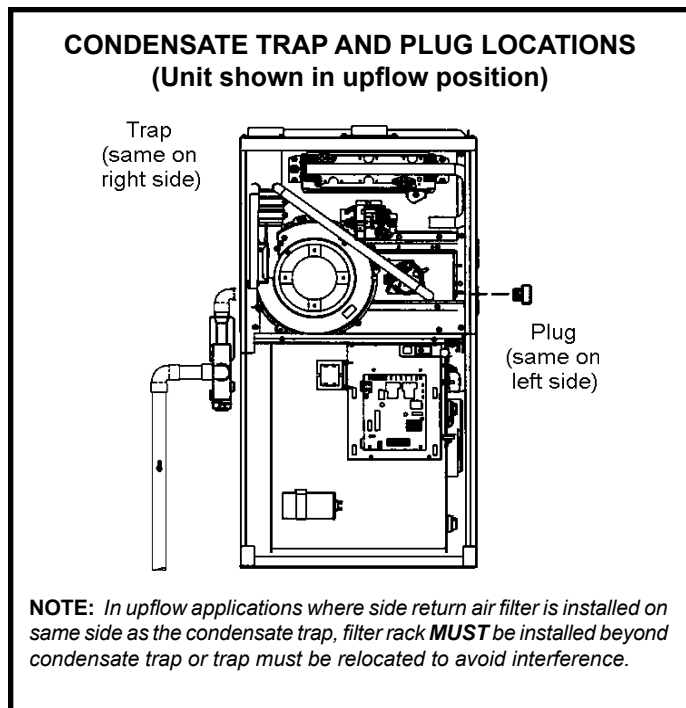

Figure 49
This unit is designed for either right or left side exit of condensate piping in upflow applications. In horizontal applications, the condensate trap must extend below the unit. An 8" service clearance is required for the condensate trap. Refer to Figure 49 and 51 for condensate trap locations. Figure 56 shows trap assembly using 1/2" PVC or 3/4" PVC.
2. Use a large flat head screw driver or a 1/2" drive socket extension and remove plug (Figure 49) from the cold end header box at the appropriate location on the side of the unit. Install provided 3/4 NPT street elbow fitting into cold end header box. Use Teflon tape or appropriate pipe dope.